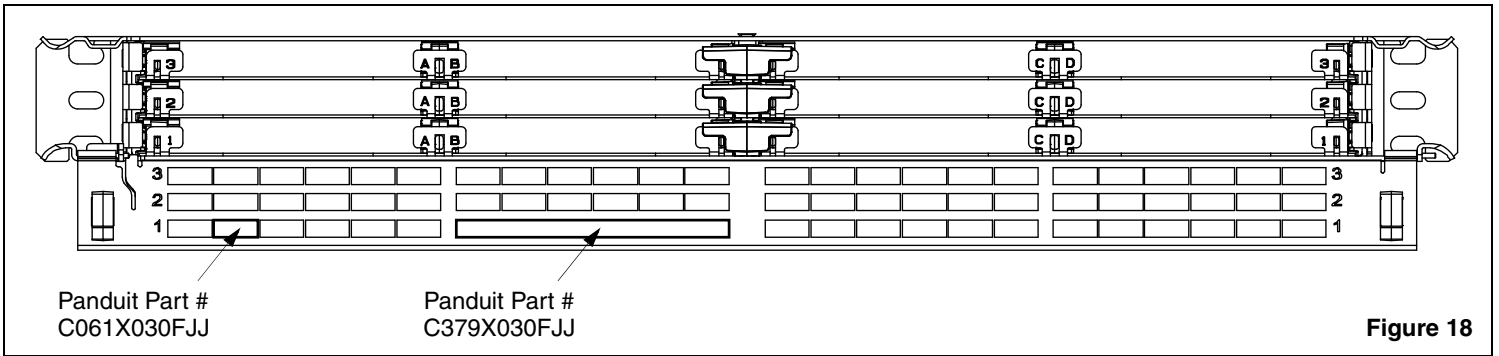

Figure 18
The labeling layout for the 1U enclosure is shown in Figure 18 below. The layout for the 4RU is identical but contains twelve (12) trays instead of three (3). Panduit label part# C061X030FJJ can be used for single port identification, or Panduit label part# C379X030FJJ for six port identification.